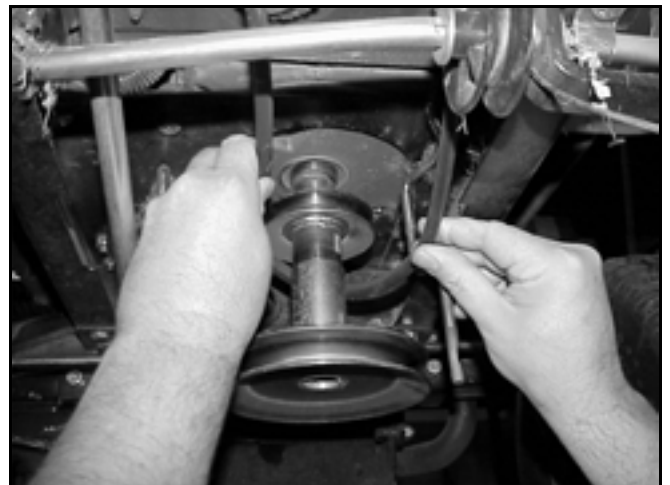

Figure 29
6. Install new belt around the engine drive pulley (Figure 29).